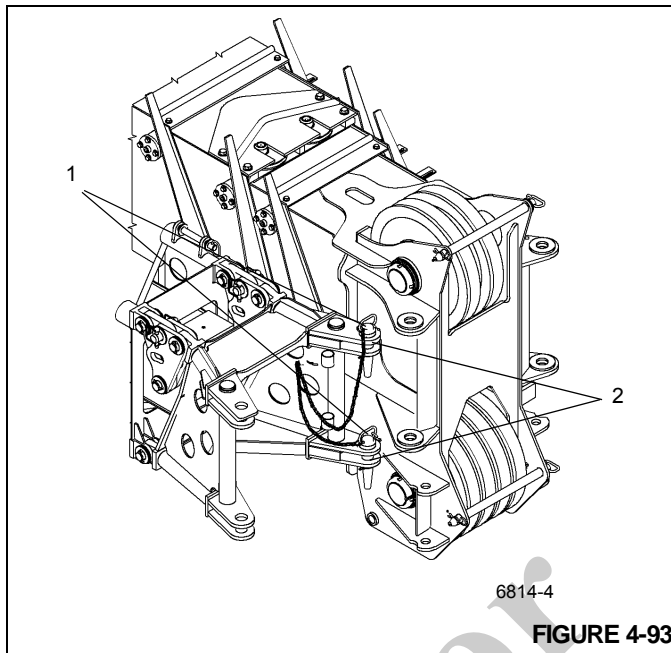

FIGURE 4-93
5. Using the rope attached to the top of the boom extension, manually align the boom attachment to the boom extension anchor fittings (Figure 4-93, 2).
6. Move the boom slightly up or down to help align the boom attachment and boom extension anchor fittings (Figure 4-93, 2).
7. Insert the right side attachment pins (Figure 4-93, 1) through the boom attachment and boom extension anchor fittings (Figure 4-93, 2). Install the retainer clips in the attachment pins.